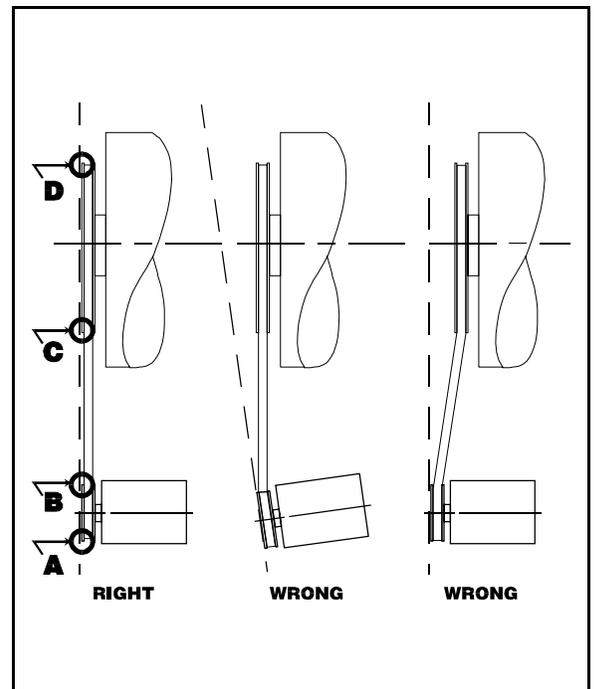

FIGURE 8 (MSSM0712AE)
1. Stretch a string from the motor pulley to the drive pulley as shown on FIGURE 8.